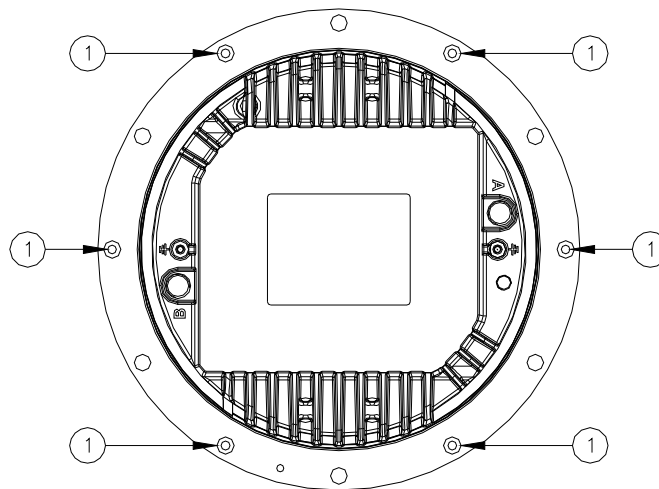
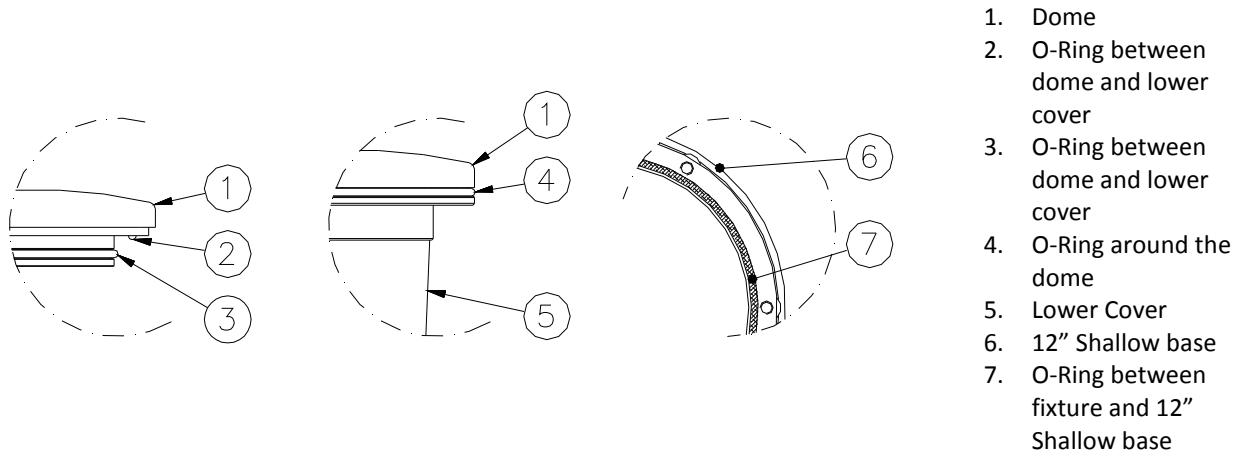

Figure 16 - Lower Cover Fixing Screws
Figure 18 – Fixture Gaskets
- Open the fixture by unscrewing the six locking screws HSFH M5x10 (Figure 16 - n°1).
- six locking screws HSFH M5x10 (Figure 16 - n°1);
- O-Rings between dome and lower cover (Figure 18 – n°2 and 3);
Verify the correct position of the two O-Ring between dome and lower cover (Figure 18 – n°2 and 3); mount the lower cover on the dome and fasten it by means the six screws HSFH M5x10 (Figure 16 - n°1). One drop of anaerobic adhesive lower type (e.g. LOXEAL 24-18) should be applied to the screws before installation; tightening torque is 2.5 Nm.
- O-Ring around the dome (Figure 18 – n°4);
- O-Ring between fixture and shallow base (Figure 18 – n°7);